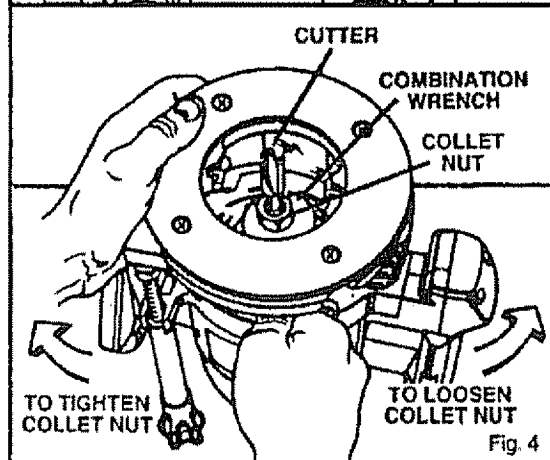

Fig. 4
4. Place 7/8 in. end of the combination wrench provided through back of router base onto collet nut and turn counterclockwise to loosen. See Figure 4.
8. Tighten the collet nut securely by turning clockwise with the wrench provided. See Figure 4.